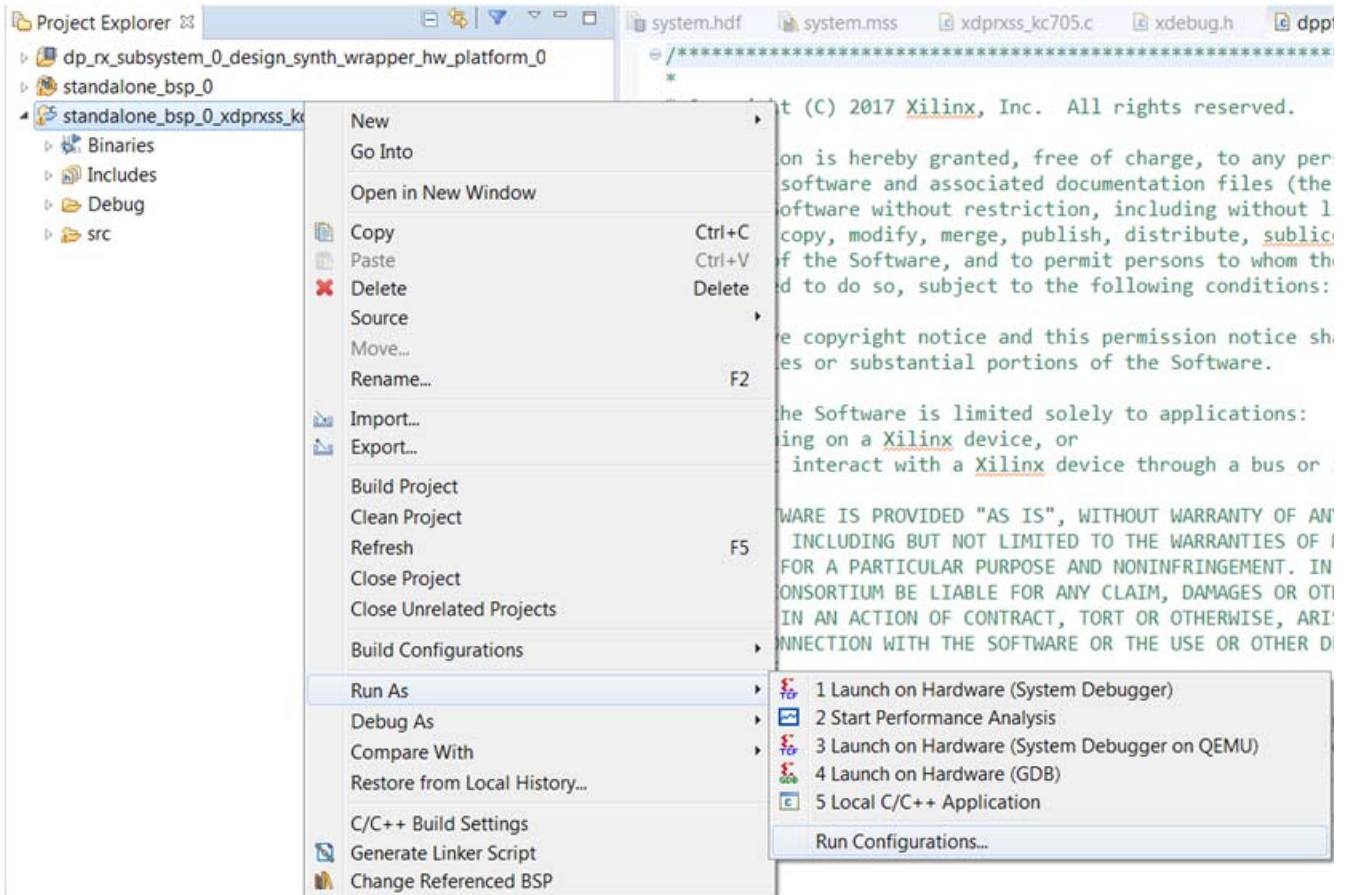

Figure 5-22: Project Explorer
- In the Vivado SDK, under the **Project Explorer**, right-click the application and click **Run As > Run Configurations** (Figure 5-22).